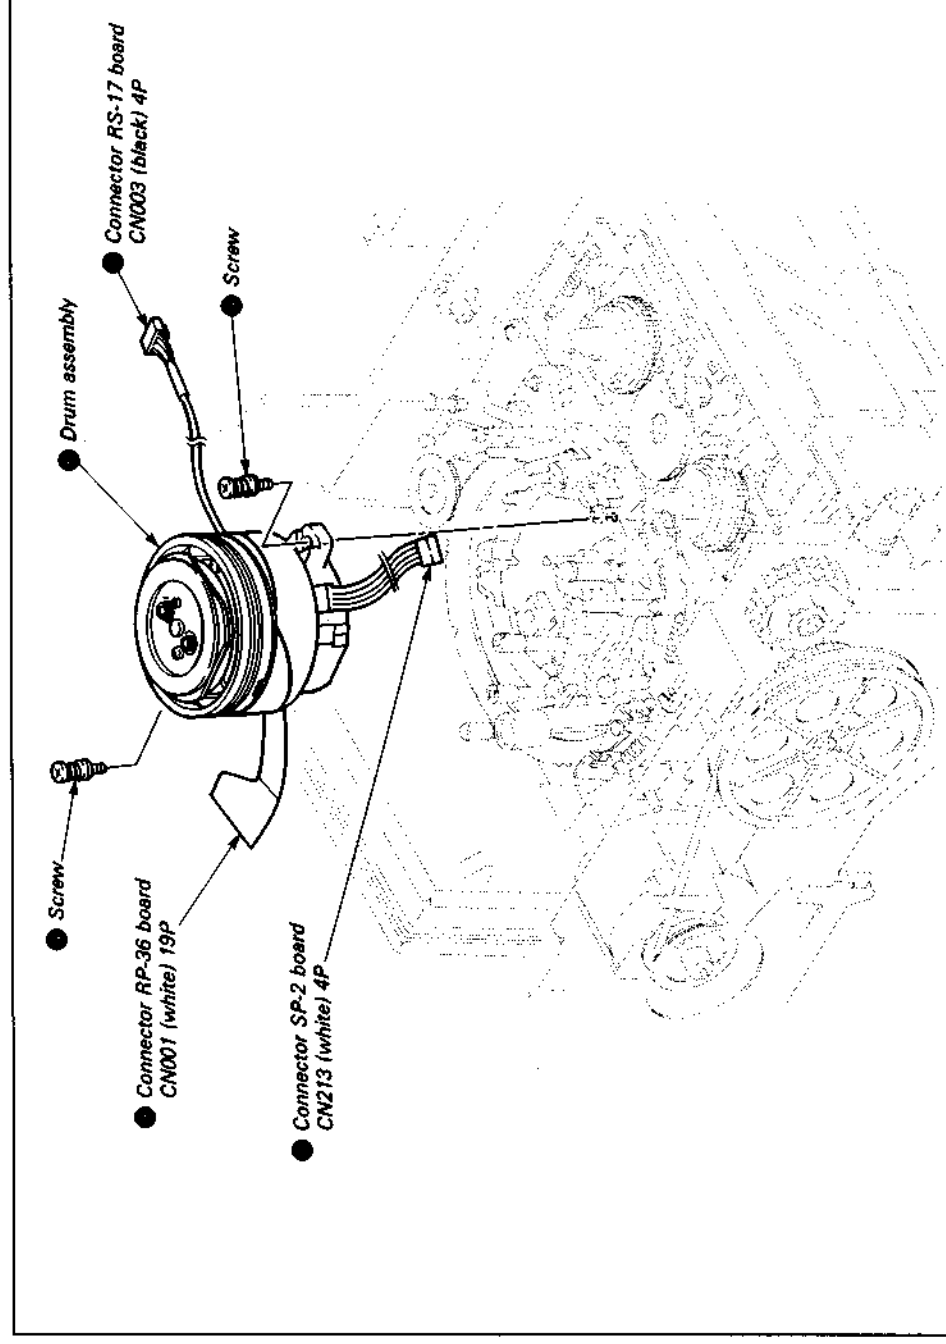

Fig. 7-51.
- 6) Remove the drum assembly ●. (See Fig. 7-51.)